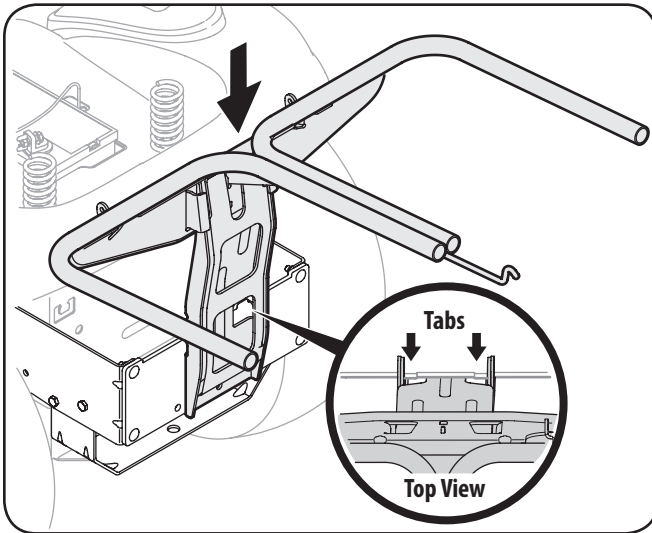

Figure 4-10
3. Install the bagger hanger assembly onto the mounting assembly on the tractor by hooking it over the hitch plate between the two tabs. See Fig. 4-10.